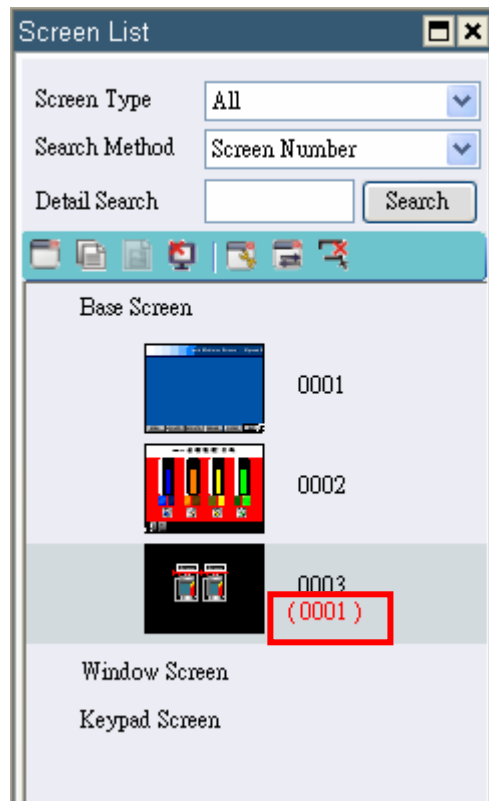

Figure 3-7-16: Numbered background images
- In the screen list, the background screen number will be showed . See Figure 3-7-16 below.